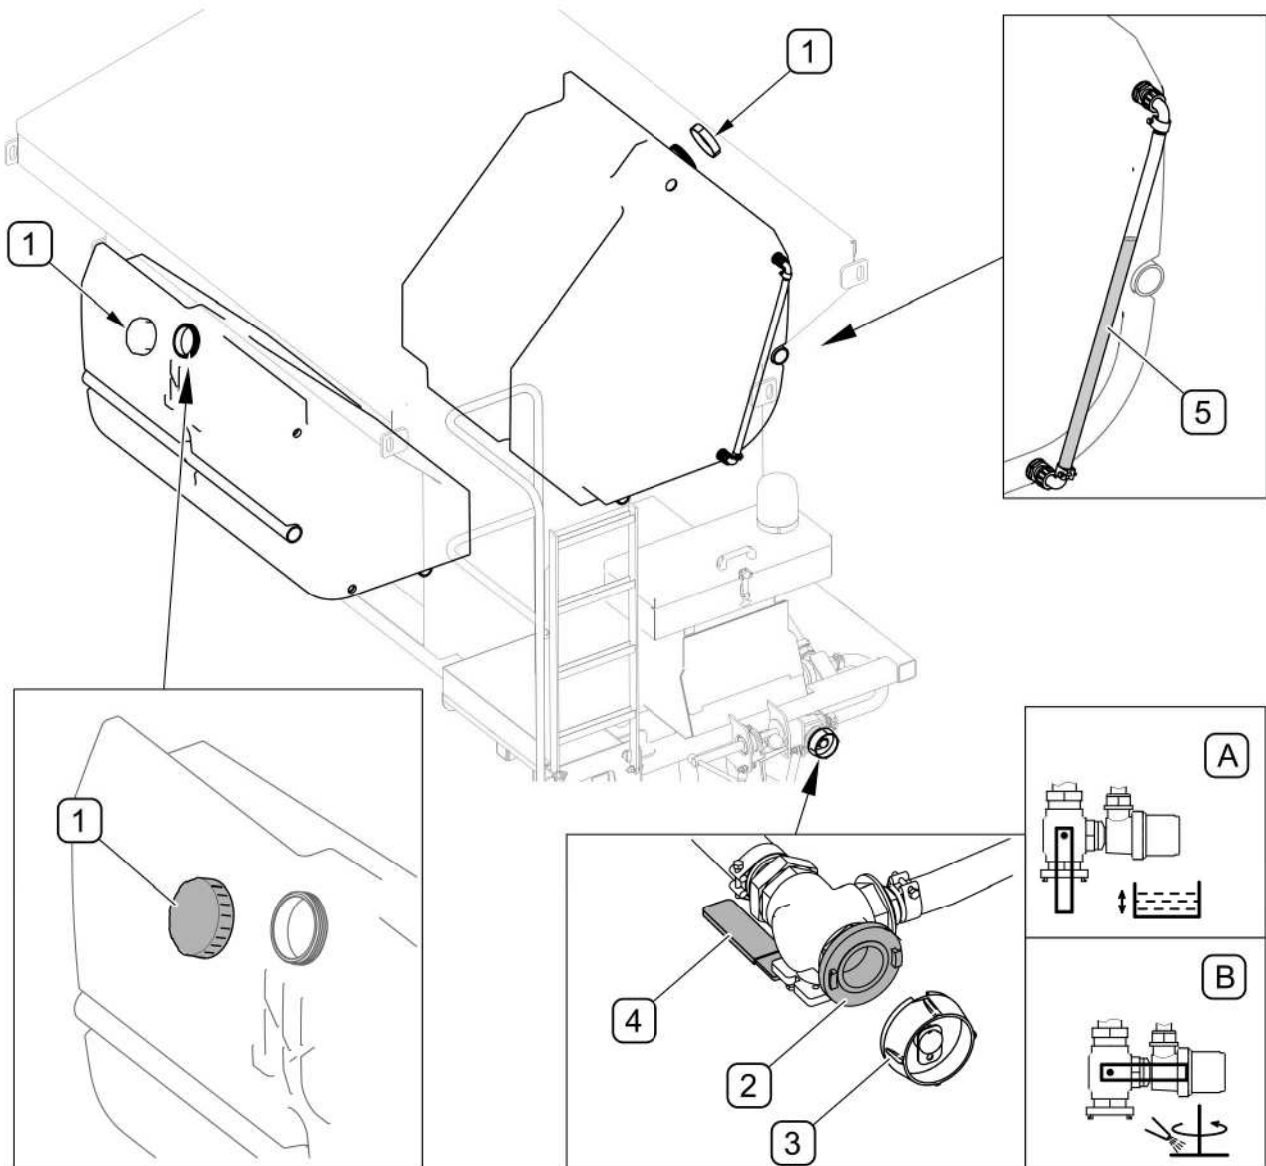

FIG. 4.15 Filling the tank with brine
The tanks can be filled with brine (FIG. 4.15) through tank openings secured with plugs (1) or through STORZ 52C connection (2) secured with a plug (3).